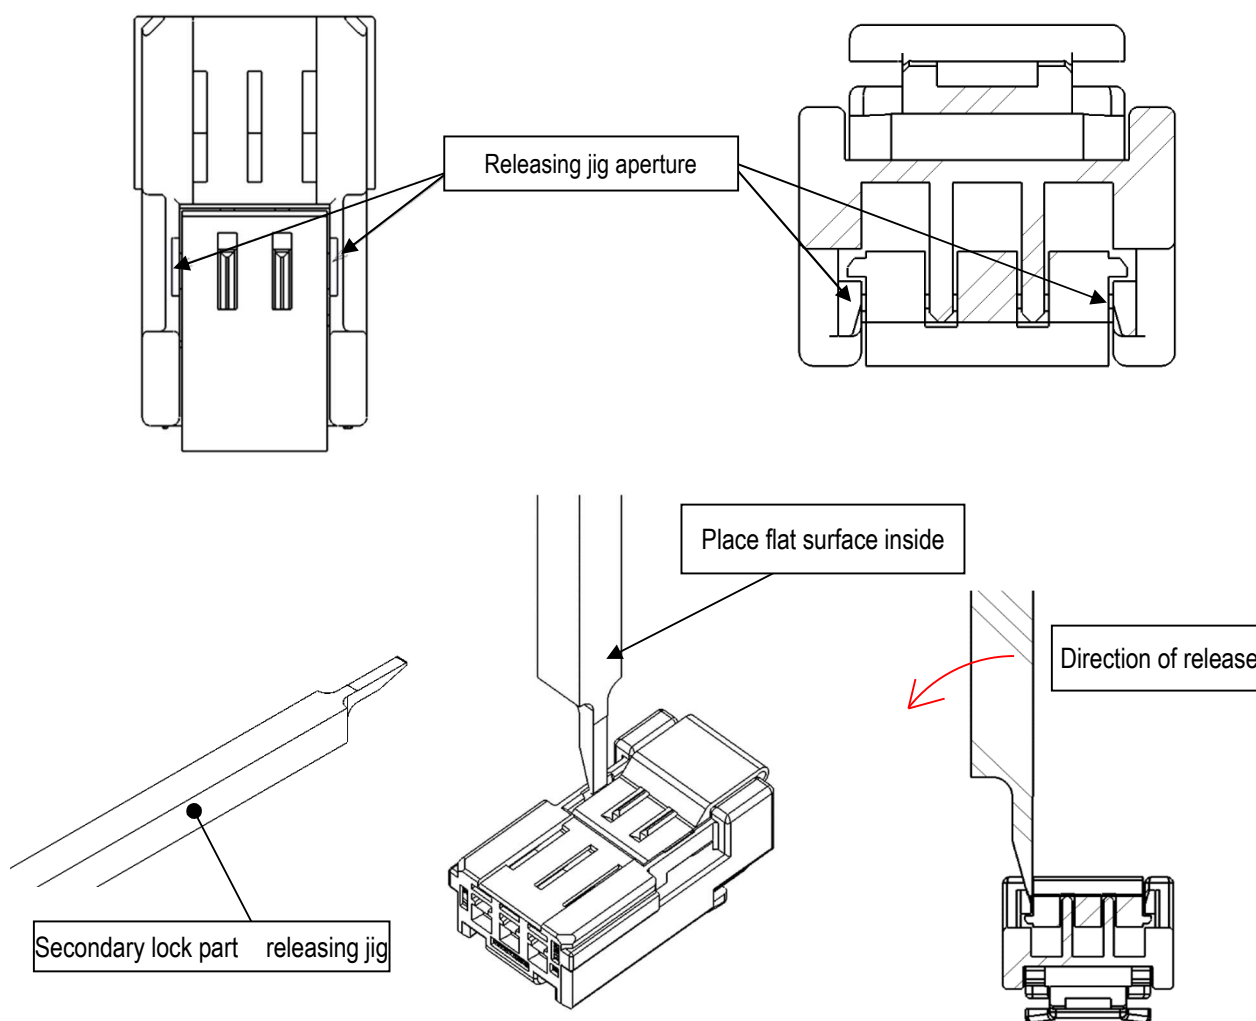

Fig 36. How to release the secondary lock part
- ① Place the releasing jig into the secondary lock part taper situated at the bottom of the female housing, and move the jig to the direction shown in Fig. 36 to release the secondary lock part (release one side at a time).